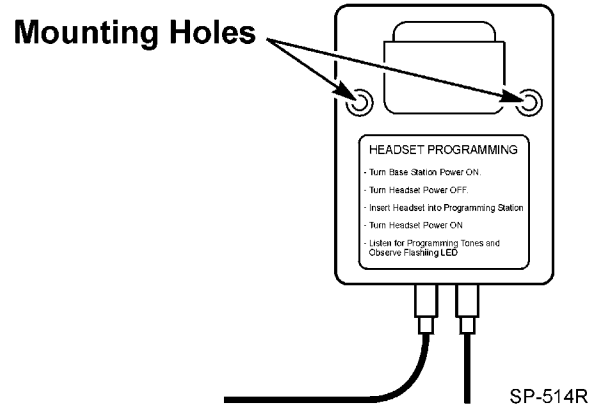

Figure 4. Programming Station Mounting Holes
| Figure 4. Programming Station Mounting Holes | 4 |
2. Mount the programming station module using the included screws and anchors. (See Figure 4.)